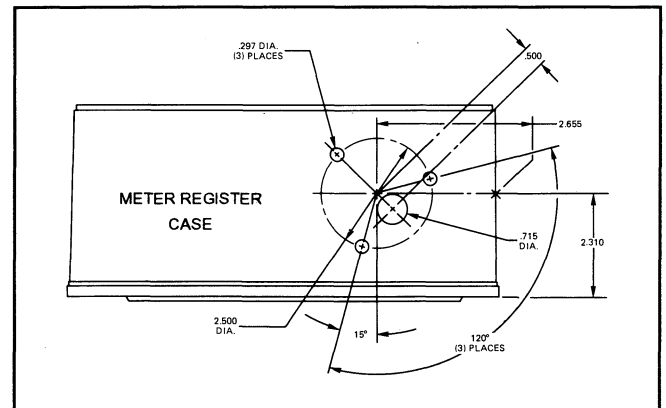

Figure 1. Drilling Dimensions.
2. Drill the meter register case according to the dimensions in Figure 1. A drill template is provided in the kit.